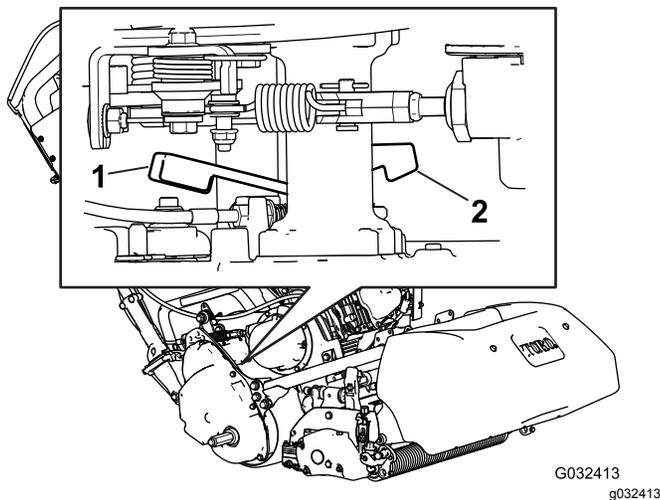

Figure 30
1. On the right rear corner of the machine, locate the traction engage/disengage lever next to the drive housing drum (**Figure 30**).